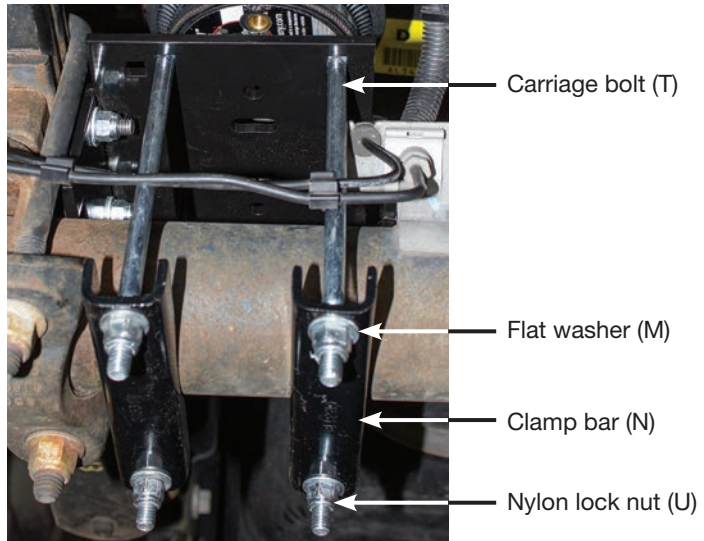

fig. 17
The inside square holes must be used for the carriage bolts (Fig. 17). Install the lower clamp bars (N) over the carriage bolts installed previously and cap with flat washers (M) and nylon lock nuts (U). Torque the lower nuts evenly to 10 lb.-ft. (14Nm).